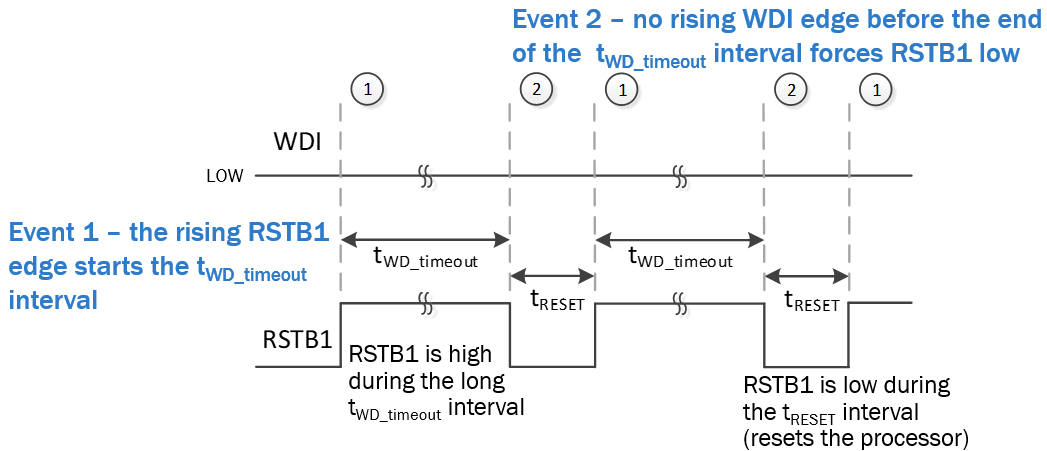

Figure 4. Watchdog Boot Mode Timing
*Boot Mode* lasts until either the end of the  $t_{WD\_timeout}$  interval (Figure 4), or a rising edge is received at the WDI pin (Figure 5). If no WDI edge is received before  $t_{WD\_timeout}$  ends, the NCV97200 sends RSTB1 low for the duration of the Reset Delay timer ( $t_{RESET}$ ) – during which the Watchdog is inactive. When RSTB1 rises, the Watchdog again becomes active in *Boot Mode* and the  $t_{WD\_timeout}$  timer restarts (timeout of one timer starts the other).